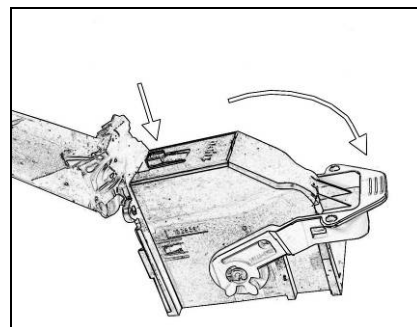

Figure 3
- C. Disconnect the electrical connection from the right rear of the cluster. To unlock and remove the connector press down on the locking tab and rotate the arm Clockwise (CW) to eject the connector from the rear of the cluster (see Figure 3).